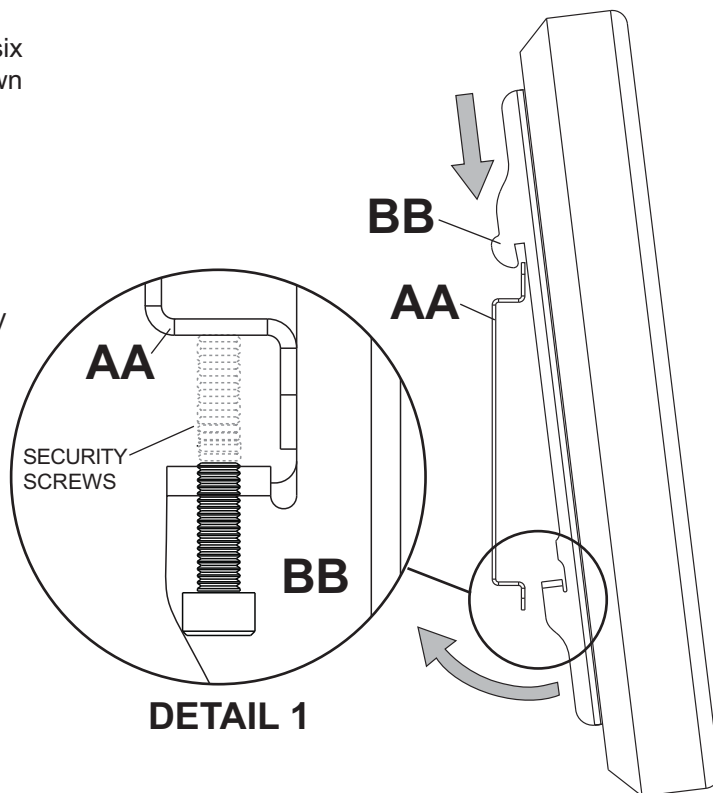

fig. 3.1
- 3** Hook adapter brackets (**BB**) onto wall plate (**AA**). Then slowly swing screen in as shown. Turn safety screws, using allen wrench (**EE**), clockwise at least six times to prevent screen from being removed as shown in detail 1 of figure 3.1.